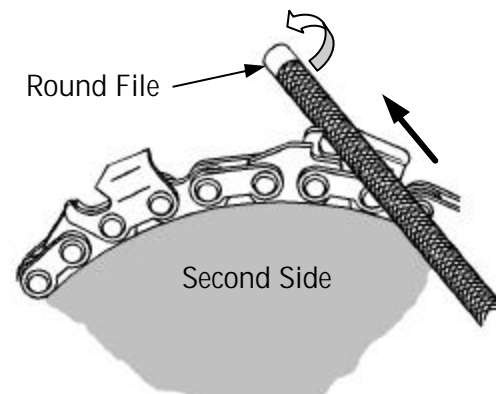

Figure 11
5. Turn the BEAVER BLADE around to sharpen the other side. Change the angle of the round file to follow the angle of the cutting edge for teeth on this side (Figure 11). Start sharpening at your mark. Sharpen the teeth that have not yet been touched. Remember to pay attention to the angle of the file on the tooth and use the same number of strokes per tooth. Twist the file a half turn with each stroke into the cutting edge of the tooth, and don't bear down on the file. Sharpen every other tooth until you get back to your mark.